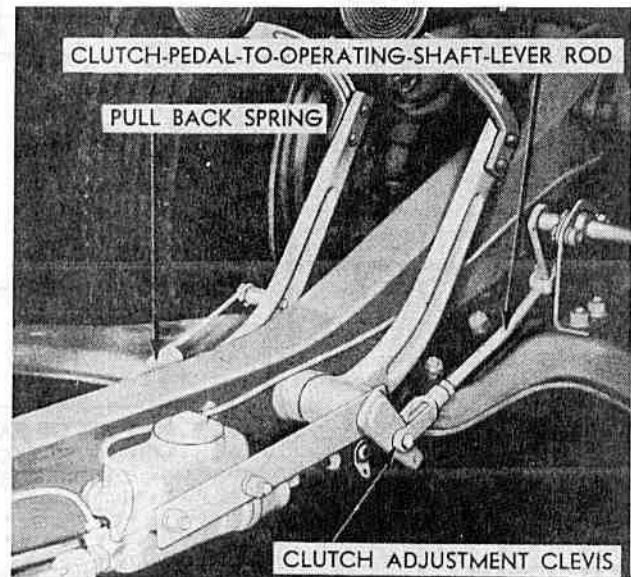

FIG. 81
**CHAMPION AND COMMANDER** The clutch pedal should have a minimum of 3/4" to 1" (19,05 mm. to 25,40 mm.) free travel before the resistance of the release mechanism is felt (see Fig. 81). To adjust the amount of free travel, unhook the pullback spring which is located on the outside of the frame, loosen the lock nut, and remove the cotter pin and clevis pin from